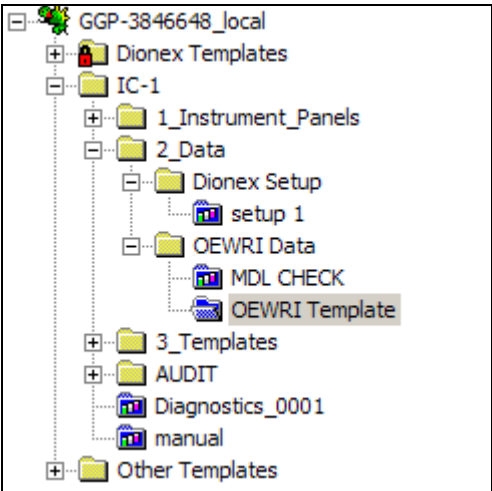

Figure 7. View of the File Explorer within the Chromeleon browser.
- a. Minimize the Panel Tabset1 window. Navigate to the "OEWR Template" and highlight "OEWR Template". See Figure 7.